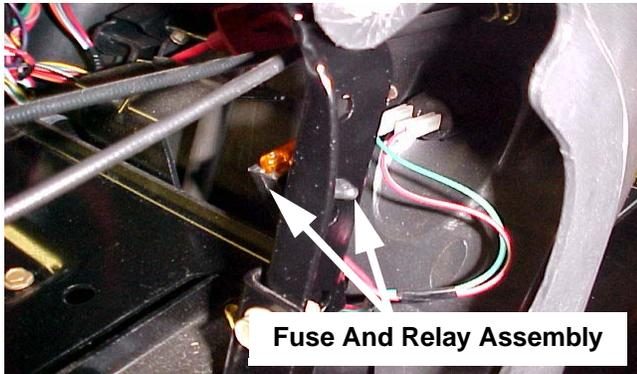

FIGURE 13
22. Install bolts and screws but do not tighten. **NOTE:** Torque the two (2) screws from Step 19, to 240 -264 in. lbs. (20 -22 ft. lbs). Then tighten all other bolts and screw.
24. Install the fuse holder into the hole of the LH dash support as shown in Figure 13.